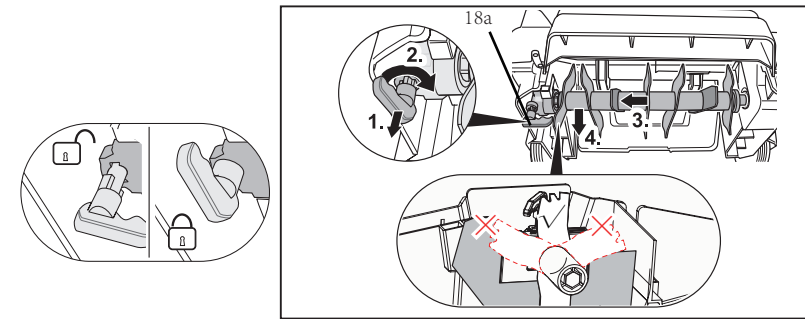

Fig. 12
2. Pull the securing lever (18a) up and turn it to the unlock position, see Fig.12, step 1, 2.
3. Slide the drum to one side, making the bearing at both sides leave the seats. see Fig.12, step 3.
4. Pull out the drum, Fig.12, step 4.
NOTE: If you can't slide the drum to one side and pull it out, it is because the blade of the drum is blocked by the plastic housing. Rotate the drum so that the blade does not block the plastic housing, then you can slide the drum to one side and pull it out. See Fig.12